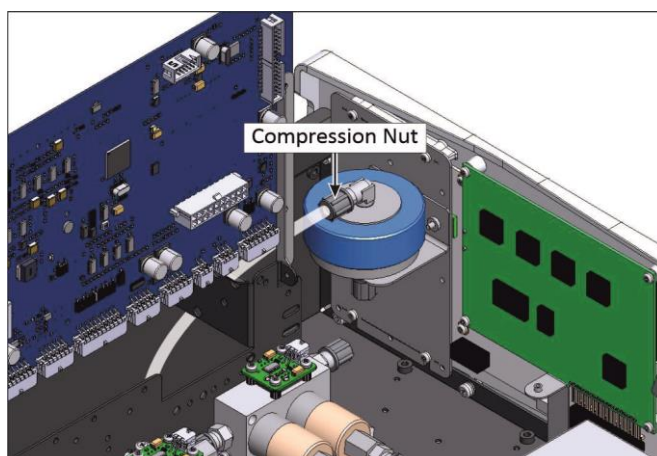

Figure 117 – Remove Compression Nut
3. Refer to Figure 117. Remove the compression nut and tubing from the fitting.